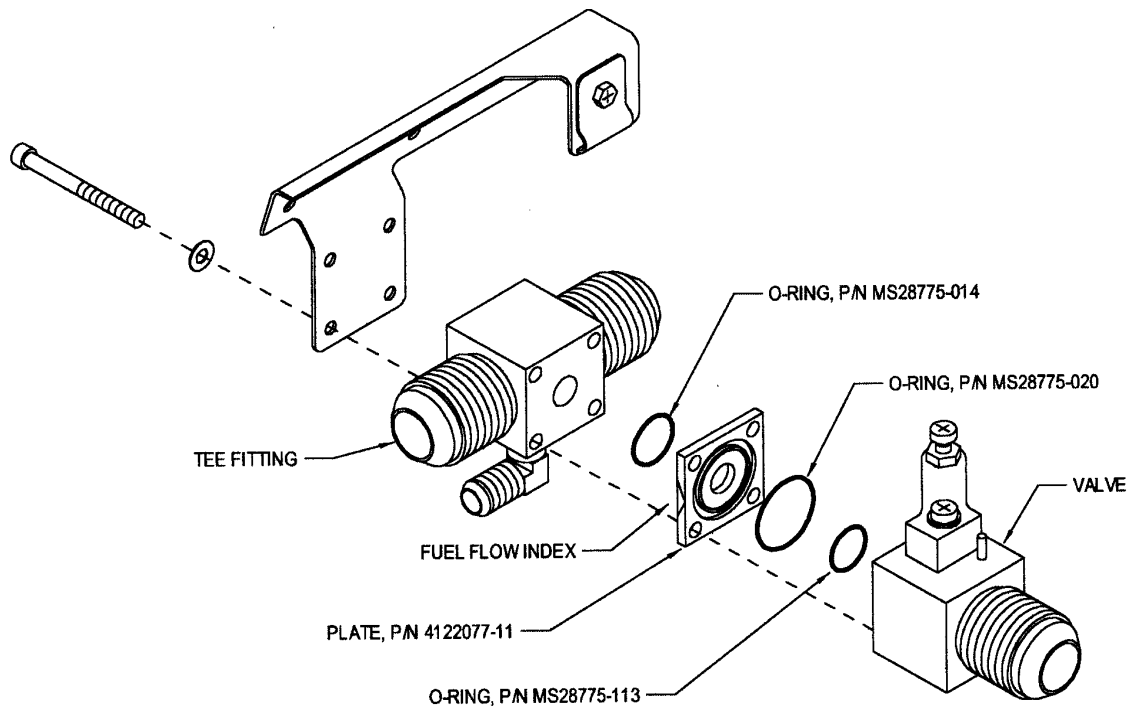

FIGURE 1
3. Install the fuel shutoff valve assembly modification kit, P/N 4230007-1, as follows (Refer to Figure 1 or to the drawing provided with the modification kit):
- c. Orient the fuel flow mark on the plate with the valve (flow mark pointed towards output fitting and ensure flow mark is visible on either left or right side of the valve assembly, refer to Figure 1). Install the plate onto the valve and hold in place.